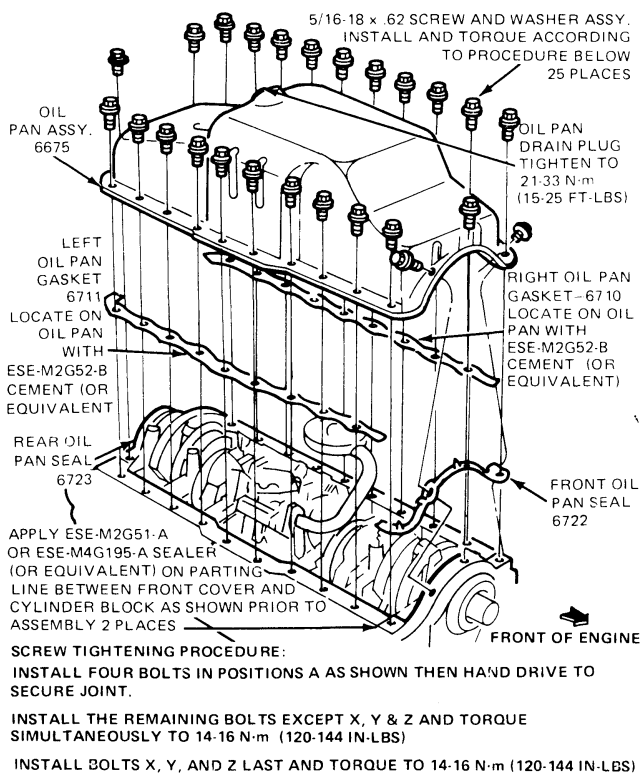

FIG. 27 Oil Pan Installation
5. Position the oil pan under the engine. Install the inlet tube and screen assembly on the oil pump with a new gasket. Tighten the screws to specifications. Position the oil pan against the cylinder block and install the attaching bolts (Fig. 27). Tighten the bolts in sequence to specifications.